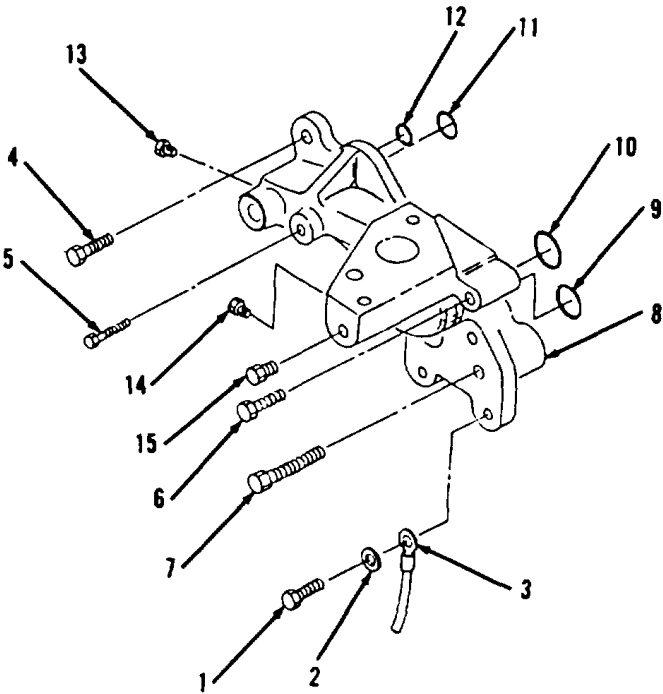

Figure 3-98.
- 1. Remove bolt (1) and washer (2, Figure 3-98) from front, right side of engine.